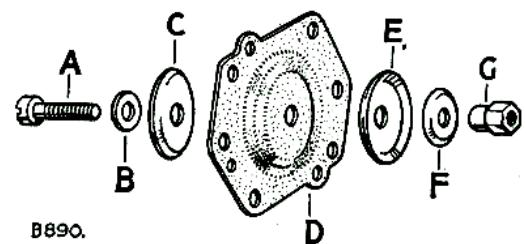

Fig. M-5—Layout of accelerator pump membrane assembly.
5. Fit the operating rod to the new membrane (Fig. M-5), taking care not to twist the membrane when tightening the securing nut. Secure the nut by staking.